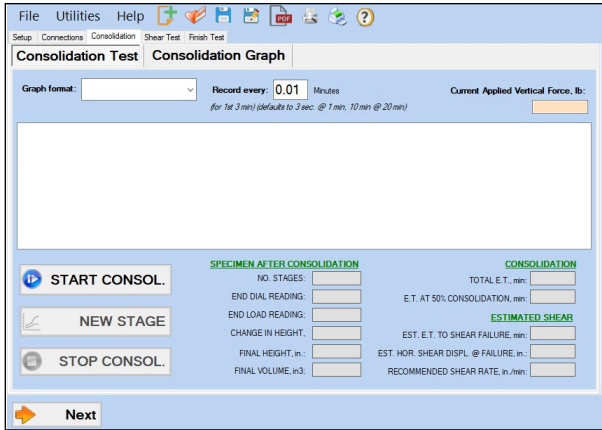

Figure 9: Consolidation tab
5. In the **Consolidation** tab (Figure 9), select the graphing format from the dropdown menu. The graph can be displayed in linear time, log time, or the square root of time. The recording frequency defaults to 0.01 minutes for the first 3 minutes of testing but can be adjusted by entering a different value in the recording frequency field.